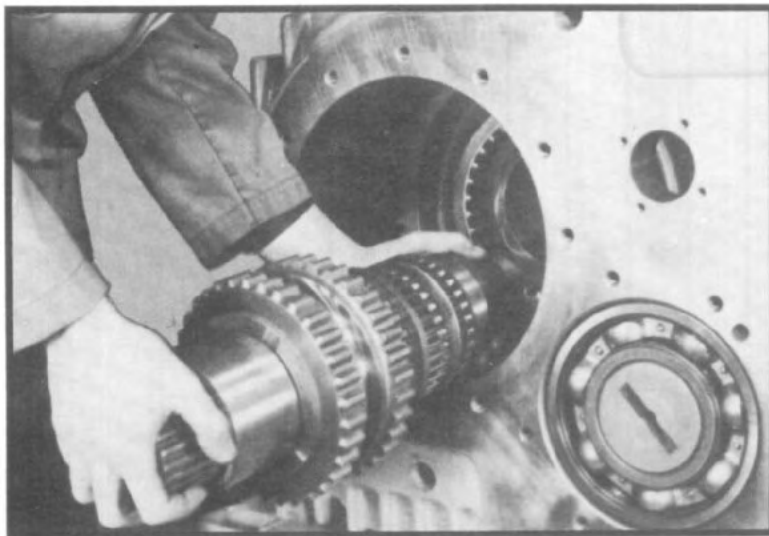

Fig. 57
- 2.23 Place a block of wood between the underdrive gear and inside of housing and drive lower shaft assembly from case by tapping with a mallet on a soft bar located on the front of the shaft. Use care when tapping front of shaft to not damage threads. Withdraw lower shaft from the case. (See fig. 57.) Remove the needle bearing assemblies and spacer ring for the underdrive gear from the shaft or from inside the underdrive gear.